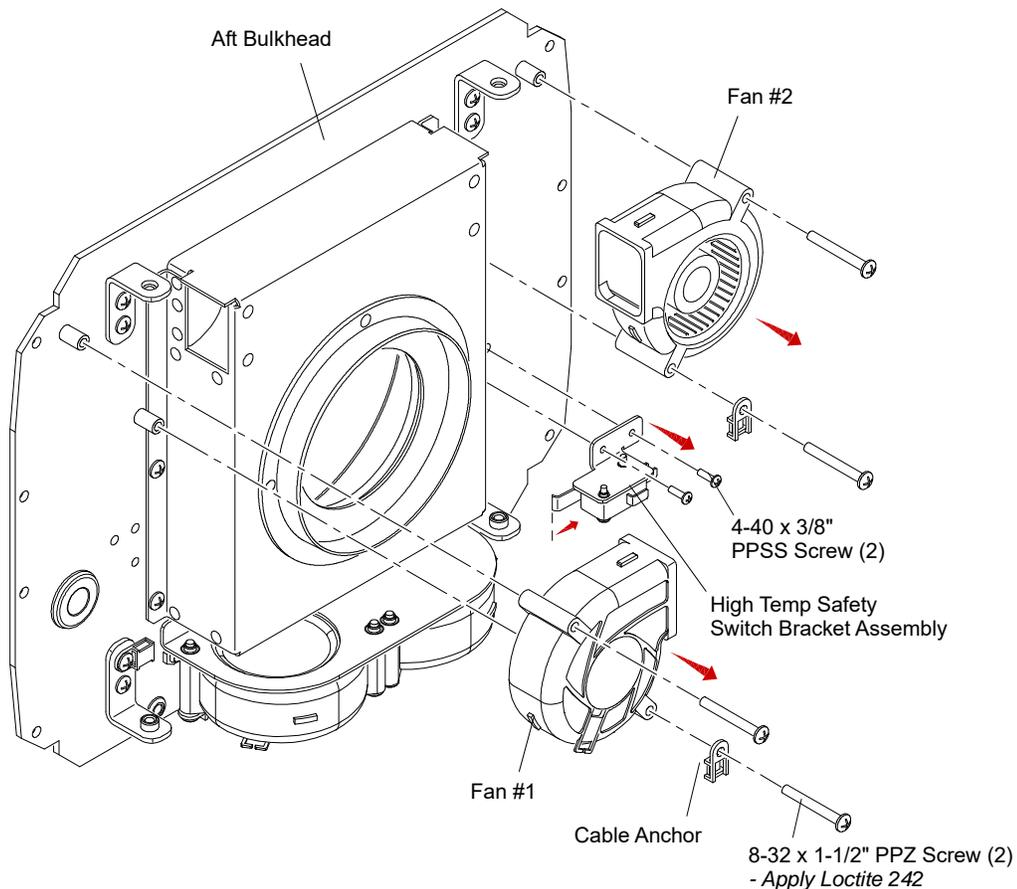

Figure 3-47: Removing Fans and High Temp Safety Switch
- Step 5. Remove two Fans located at top of Aft Bulkhead as follows (**Figure 3-47**):
- Step 10. Replace Retro-Reflector by doing steps in reverse. Apply Loctite 242 to screws when re-installing Fans as shown in **Figure 3-47**.